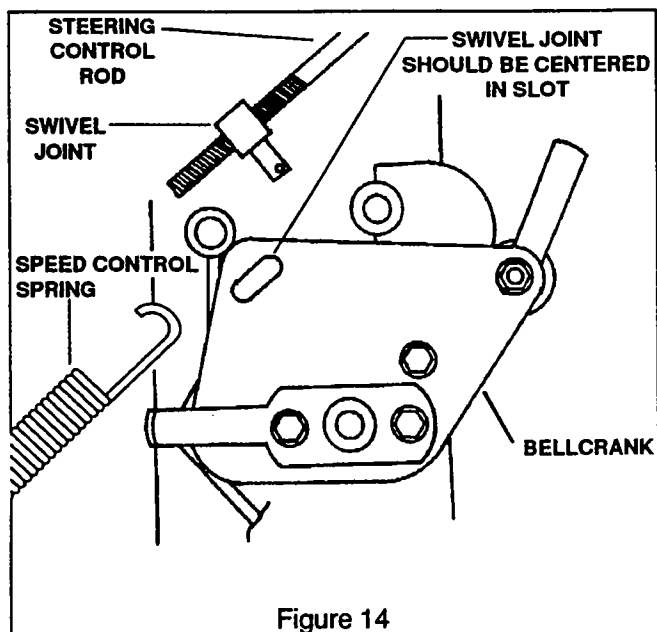

Figure 14
- Turn the swivel joint on the steering control rod until the swivel joint lines up in the center of the slot in the bellcrank. This will allow the control rod to be moved back when shifting out of neutral and not move the bellcrank. (See figure 14)